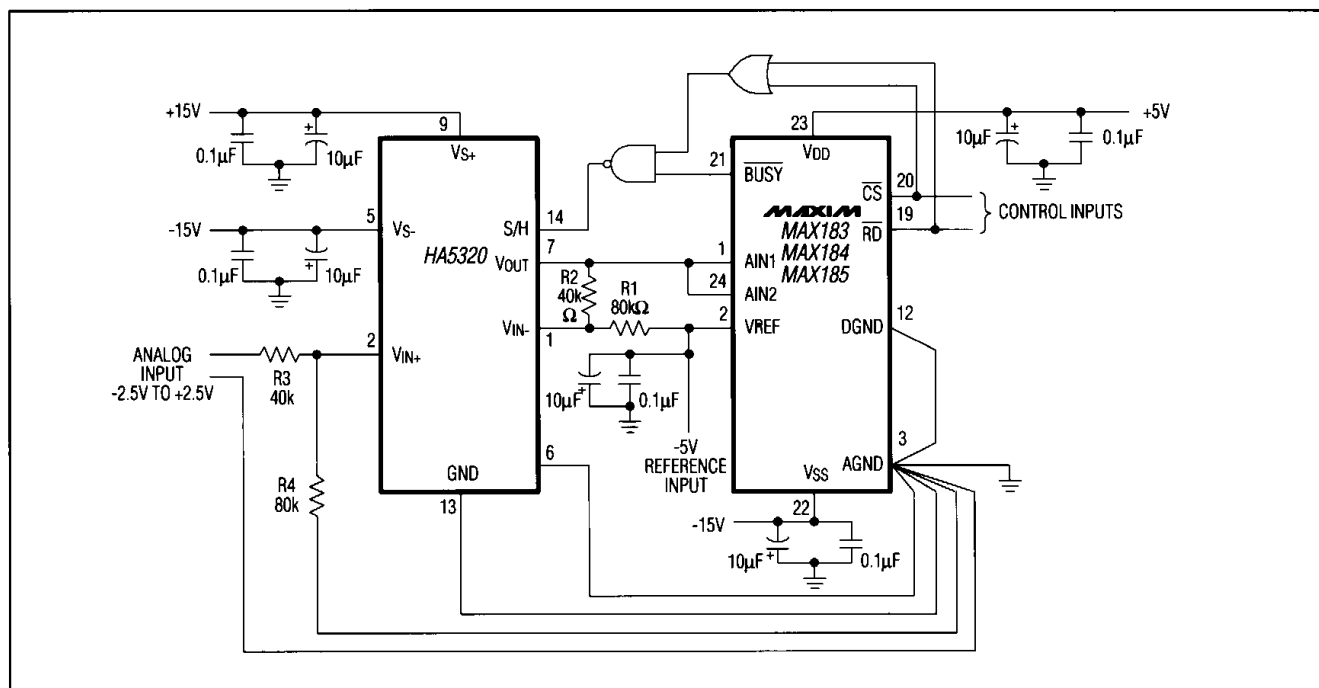

Figure 14. MAX183/184/185—HA5320 Sample-and-Hold Interface
**MAX183** – Figure 14 is the MAX183 to HA5320 interface. The maximum sampling rate is 210kHz with a 4MHz clock, which allows a 1.5 $\mu$ s acquisition time. The HA5320 can also be replaced by a HA5330 for higher throughput.